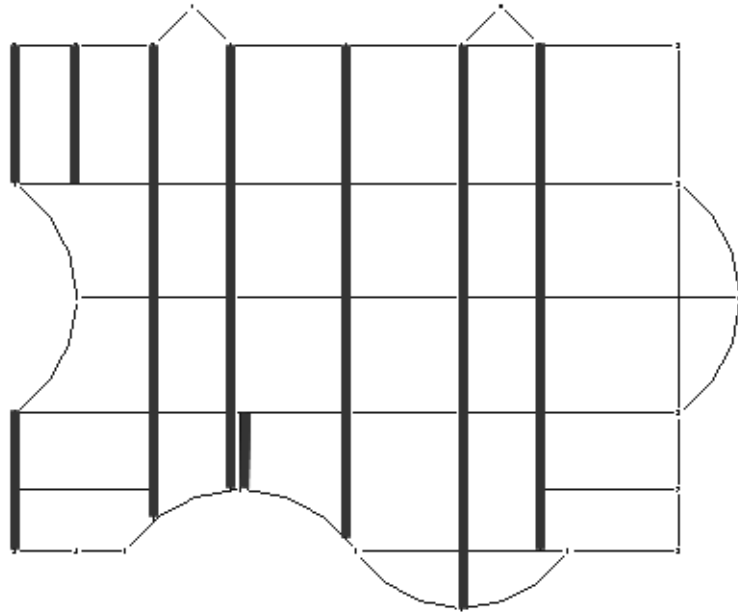

Figure 7–52
- For this level you need to lower the perimeter beams of each bay in the North-South direction for the joist bearing. Select all of the vertical beams in the plan, excluding the beams along the far right, as shown in Figure 7–52.